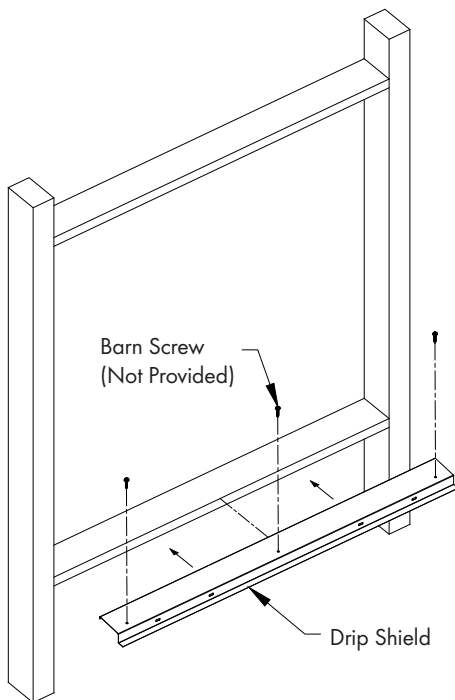
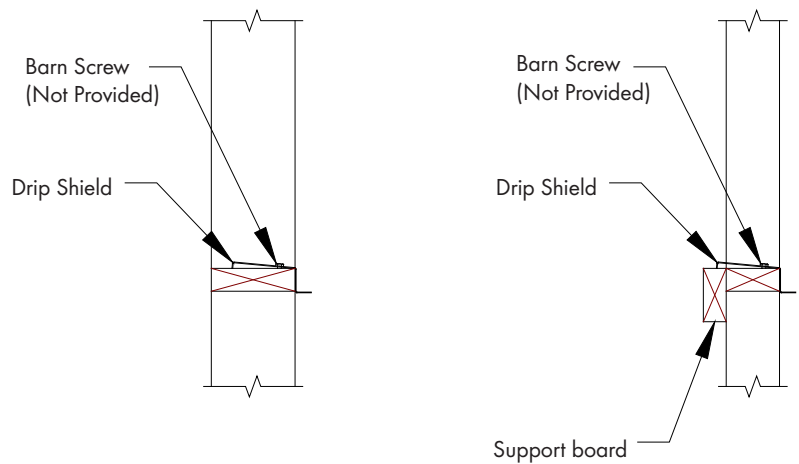

Figure 11A
Figure 11B
Attach Drip Shield to bottom of framed opening using (3) Barn Screws (Not Provided). See Figure 11A and 11B. If a 4" wall is used a support board must be installed as shown in Figure 11B. Be sure not to deform Drip Shield when installing screws.